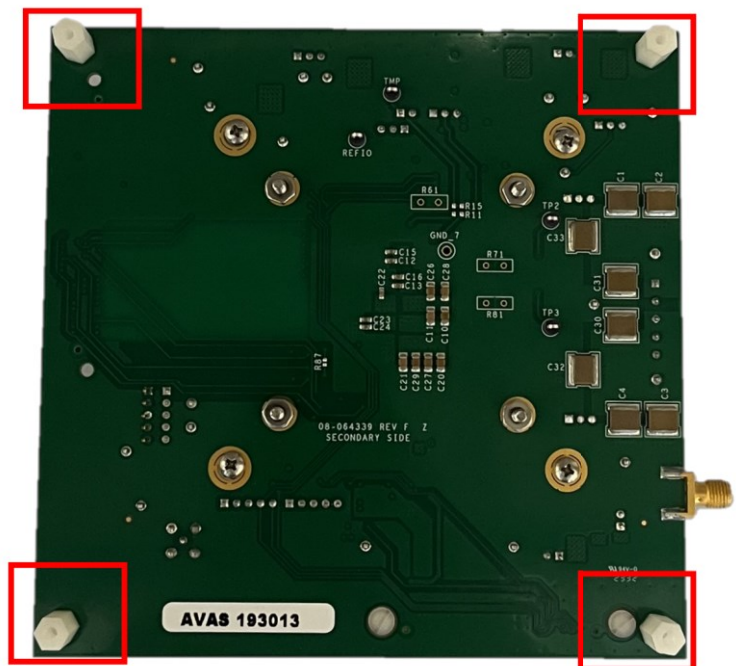

Figure 10. Back of Evaluation Board with Plastic Standoffs
- Secure the four plastic standoffs (PN 1902C) to the back of the board with four plastic screws (PN NY PMS 440 0025 PH), as seen in Figure 10.